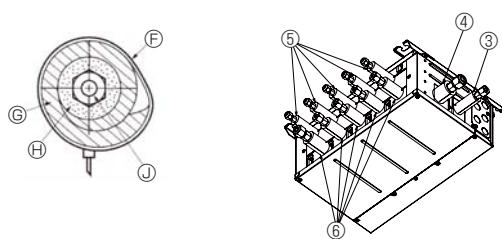
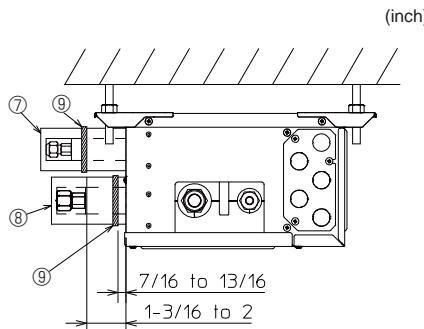

Fig. 7-4
Fig. 7-5
- * Insulate the liquid and gas pipes of the branch box by attaching the heat-resistant polyethylene foam tightly around them. (Fig. 7-4)
- (5) Press the pipe covers ③ and ⑥ on the liquid piping against the unit and wrap to hold in place. (Fig. 7-4)
- (6) Press the pipe covers ④ and ⑤ on the gas piping against the unit and wrap to hold in place. (Fig. 7-4)
- (7) Apply the supplied bands ⑨ at a position 7/16-13/16 inch (10 - 20 mm) from each end of the pipe covers (③④⑤⑥).
- (8) If the indoor unit is not connected, fit the supplied pipe covers (with caps, ⑦ and ⑧) to the branch box refrigerant piping connections against the unit to prevent condensation dripping from the pipes. (Fig. 7-5)
- (9) Clamp the pipe covers (⑦⑧) in place with the supplied bands ⑨.
- ⑤ Band (3.1 Accessories No. ⑨)
- ⑥ Pipe covers (3.1 Accessories No. ③④⑤⑥)
- ⑦ Thermal insulation for refrigerant piping
- ⑧ Refrigerant piping
7.2. Handling of ports that are not connected to outdoor unit (Fig. 7-5)